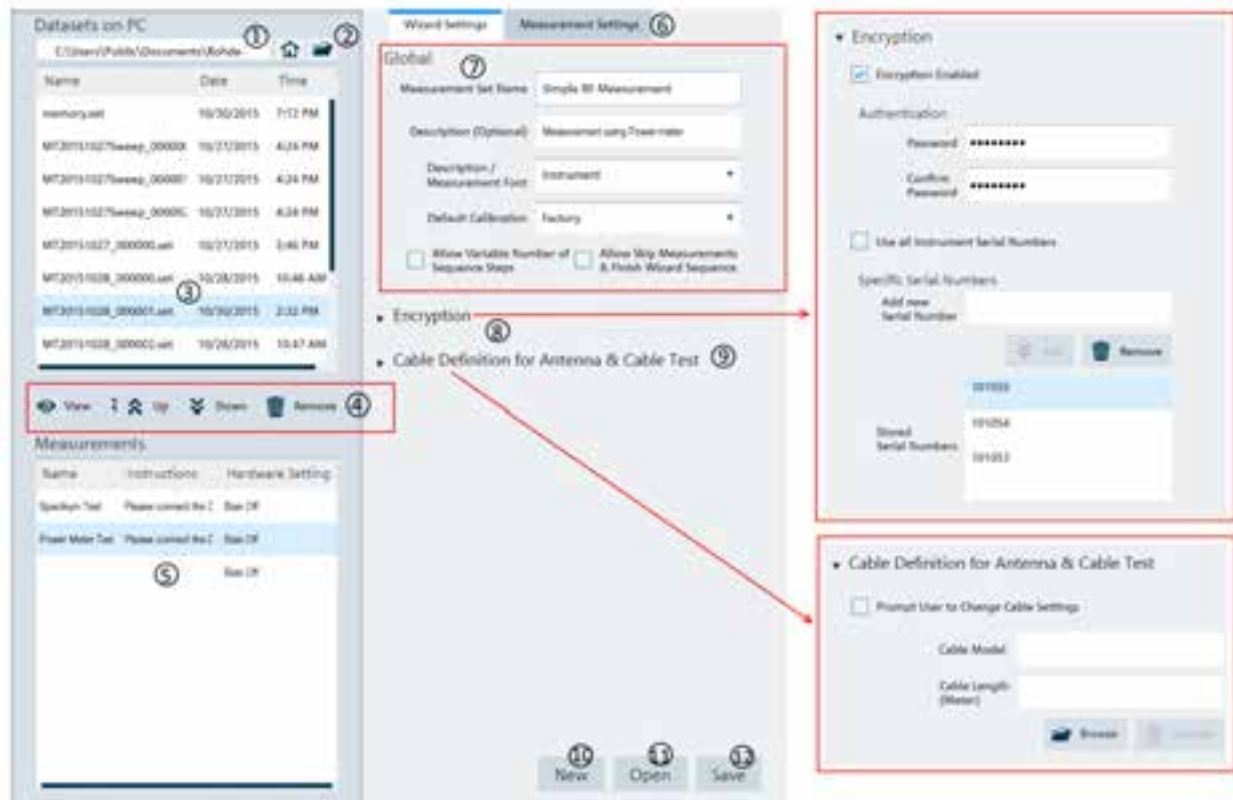

Figure 4-31: Wizard editor
The measurement table list forms the measurement sequence in the wizard set. See item 5 in Figure 4-31
The "Wizard " editor allows you to open, edit and save the measurement wizard set. See Figure 4-31.
To arrange the measurement sequence in the wizard set, double clicked or "Add" the desired dataset from the PC folder directory to the measurement table list. See index 4 and 5 of Figure 4-31.
Navigate from the list of datasets in the measurement table list (see index 5 of Figure 4-31) and select the desired dataset for configuration.